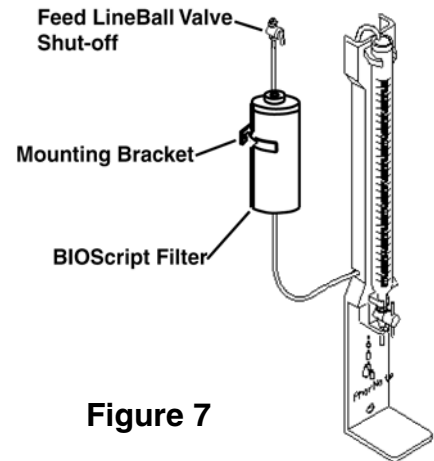

Figure 7
4. Remove Shut-off Ball Valve from end of dispenser inlet tube. Insert end of dispenser inlet tube into 90 degree push-in elbow fitting on base of BIOScript® filter (Page 12, Figure 7).
5. Cut separate 5" length of white 1/4" dispenser tubing and insert into push-in fitting on top of BIOScript® filter (Page 12, Figure 7).
6. Attach Shut-off Ball Valve to open end of 5" tubing, then connect with white 1/4" dispenser feed tubing originating from RO System (Page 12, Figure 7).
Note: BIOScript® filter should be located between Shut-off Ball Valve and dispenser as shown on page 12, Figure 7.